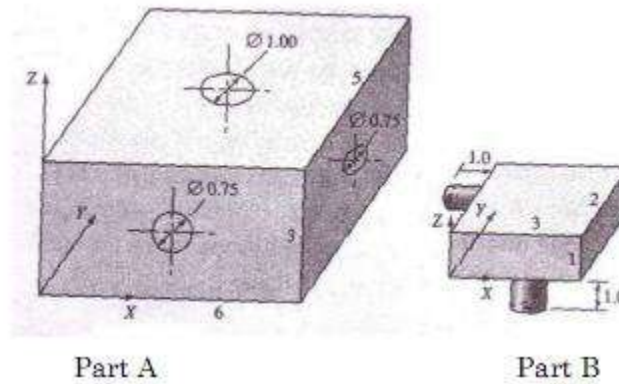

Fig. 1
6. Fig. 1 shows a pin and a block with their mcscs. The pin and the Instances to be assembled into the hole in the block. Use wcs and write The transformation matrices to merge the three instances of b into a.